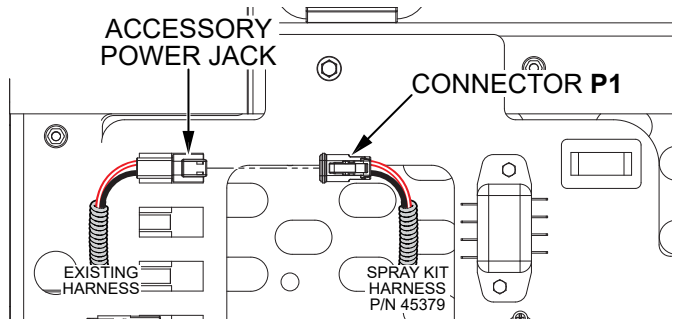

Figure 12. Connect Spray Kit Harness to Accessory Power Jack
- Plug connector P1 from the spray kit wiring harness (P/N 45379) into the accessory power jack. See Figure 12.